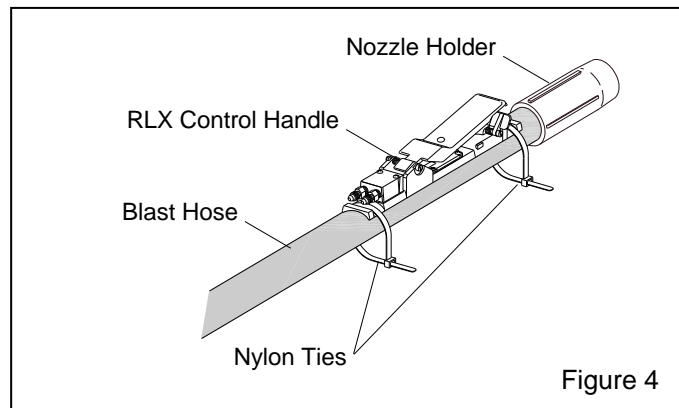

Figure 4
**2.4.2** Band the control handle to the blast hose close to the nozzle holder, as shown in Figure 4, using the two nylon ties provided. After the control is firmly attached, clip the tie ends to avoid snags or interference with the operation of the control handle.